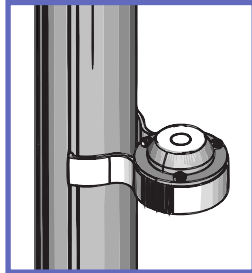
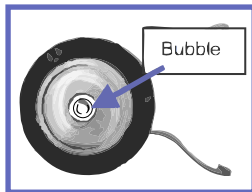

Fig. 16
Fig. 17
- 10) Before the *EASYTRACK* post tightens against the ceiling; check the clip-on level to make sure the bubble is in the centre of the circle. Tilt the post until the bubble reaches the centre of the circle, see Fig. 16 and Fig. 17.